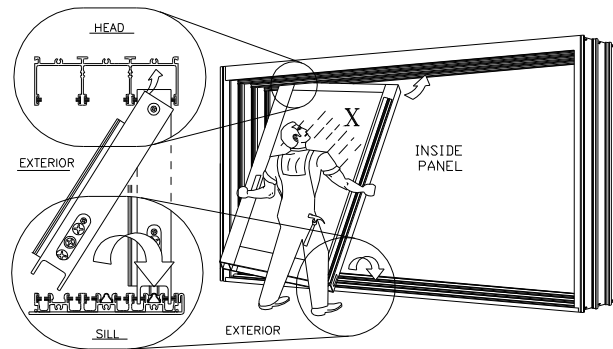

Figure 24:
2. Insert panel (panel located on the track closest to the interior) into the upper head channel. Push up and swing the bottom inward until panel is vertical, then lower panel down onto the track (Figure 24).